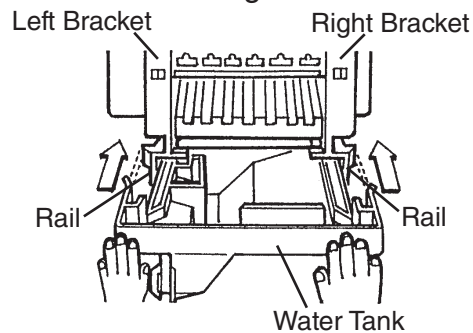

Fig. 47
14) Slide in the water tank along the rails at the bottom of the left and right brackets until it locks into place. See Fig. 47.